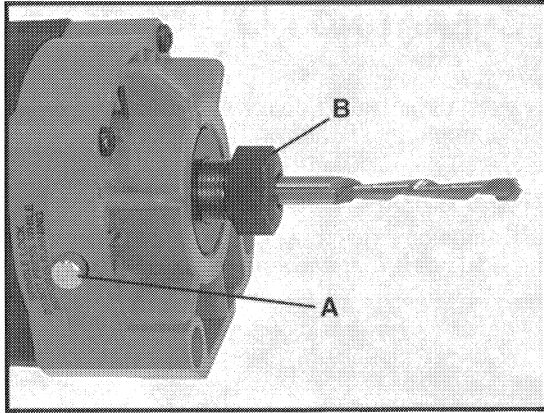

Fig. 2
2. Depress spindle lock (A) Fig. 2, and rotate collet nut (B) Fig. 2, clockwise by hand until lock engages hole in motor spindle.